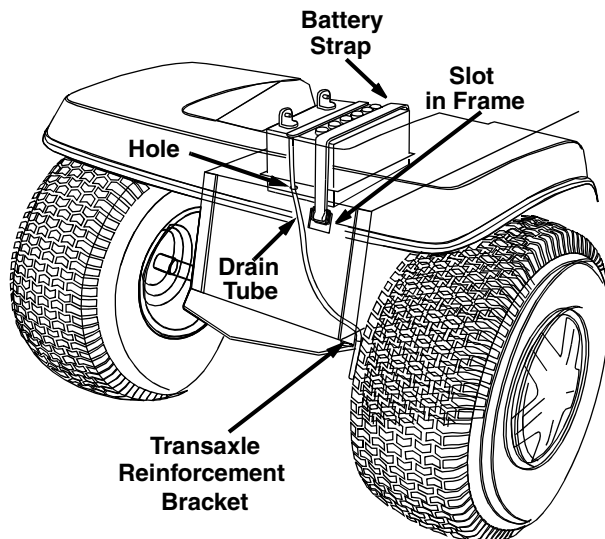

Figure 10
6. Secure battery by hooking battery strap into slot in rear frame, under the fender. See Figure 10.
7. Insert the drain tube down through the hole in the battery compartment and the hole in the transaxle reinforcement bracket located on the **right** side of the unit. See Figure 10. Be certain drain tube is routed away from the wheel rim.